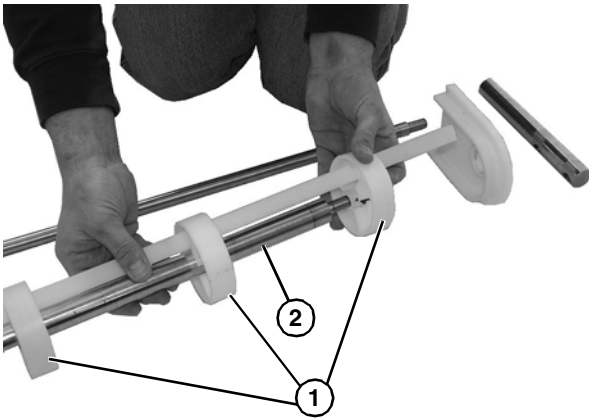

Figure 71
2. Slide all the idler pucks (Figure 71, item 1) along with alignment bar onto idler shaft (Figure 71, item 2).